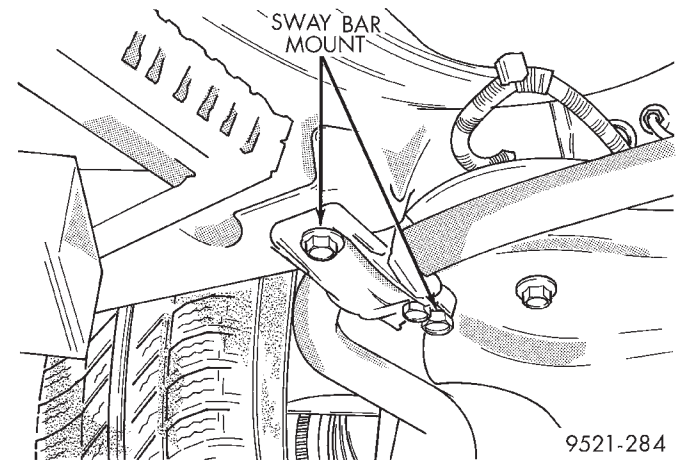

Fig. 53 Sway Bar Mounts
- (28) Remove sway bar mounts (Fig. 53).